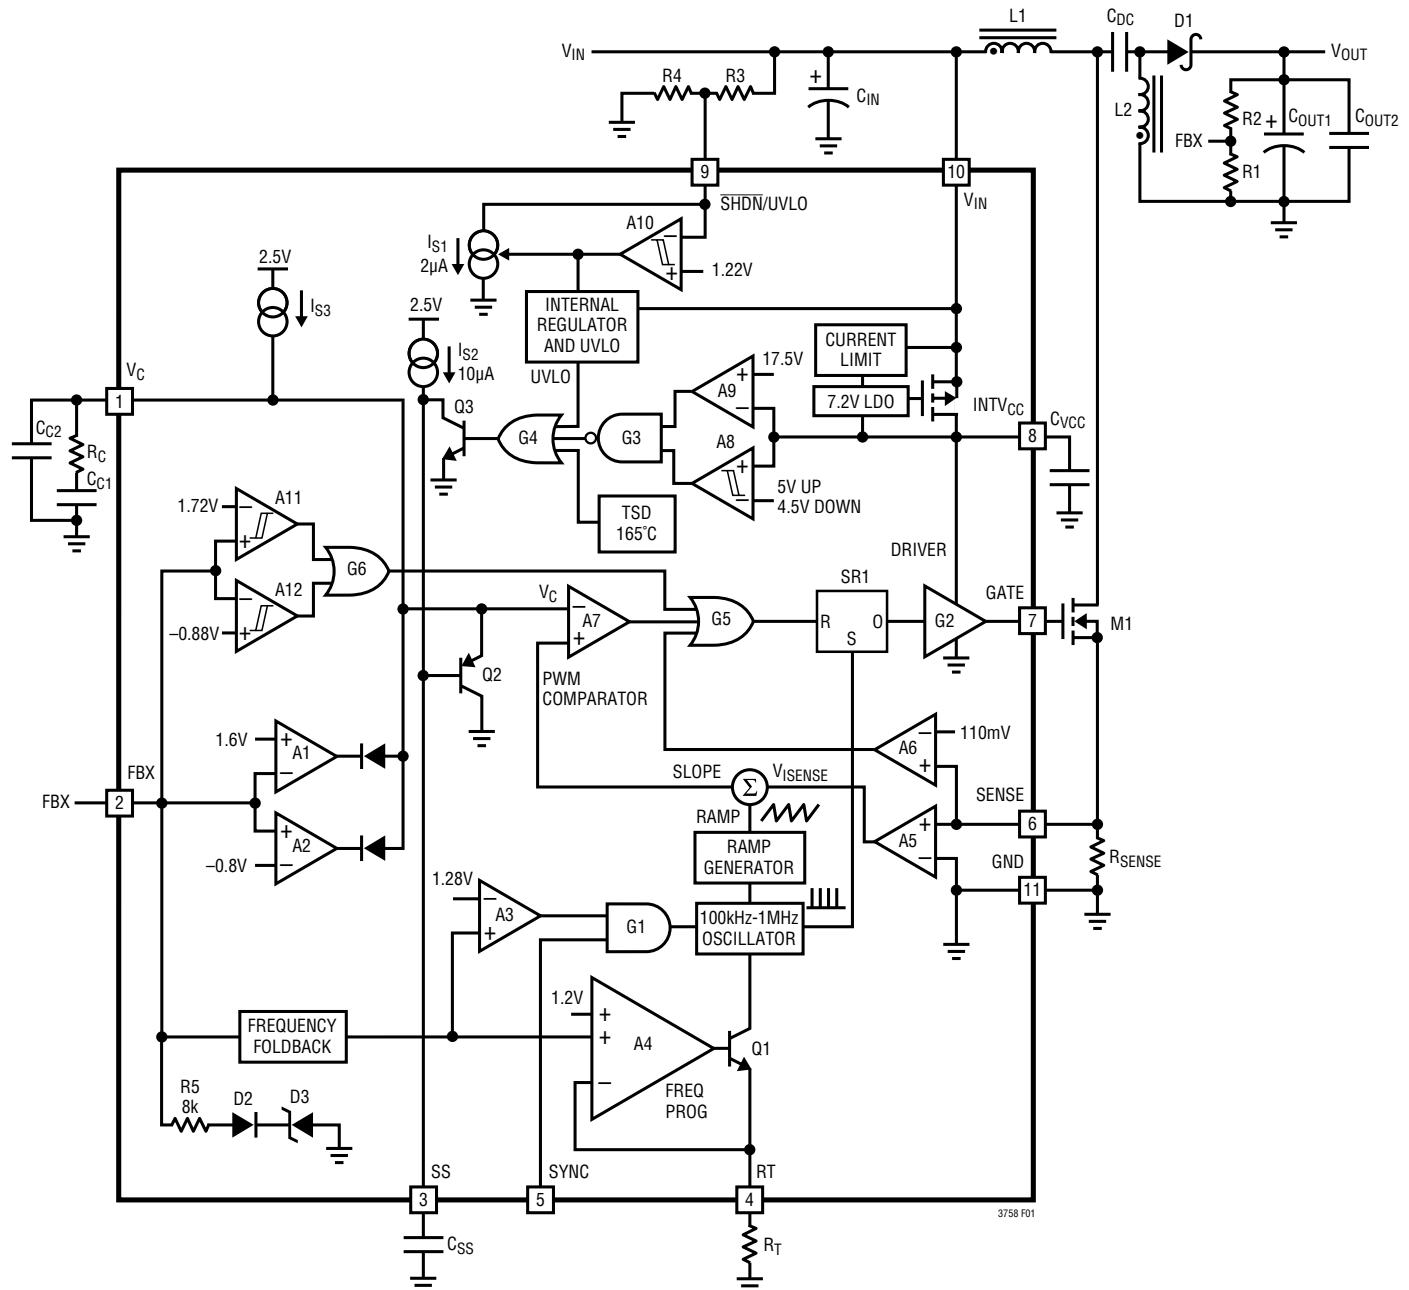

Figure 1. LT3758 Block Diagram Working as a SEPIC Converter
The LT3758 uses a fixed frequency, current mode control scheme to provide excellent line and load regulation. Operation can be best understood by referring to the Block Diagram in Figure 1.
The LT3758 is capable of generating either positive or negative output voltage with a single FBX pin. It can be configured as a boost, flyback or SEPIC converter to generate positive output voltage, or as an inverting converter to generate negative output voltage. When configured as a SEPIC converter, as shown in Figure 1, the FBX pin is pulled up to the internal bias voltage of 1.6V by a voltage divider (R1 and R2) connected from V_{OUT} to GND. Comparator A2 becomes inactive and comparator A1 performs the inverting amplification from FBX to V_C . When the LT3758 is in an inverting configuration, the FBX pin is pulled down to -0.8V by a voltage divider connected from V_{OUT} to GND. Comparator A1 becomes inactive and comparator A2 performs the noninverting amplification from FBX to V_C .
The purpose of this current is to allow the user to program the rising hysteresis. The Block Diagram of the comparator and the external resistors is shown in Figure 1. The typical falling threshold voltage and rising threshold voltage can be calculated by the following equations:
An internal, low dropout (LDO) voltage regulator produces the 7.2V INTV_{CC} supply which powers the gate driver, as shown in Figure 1. The LT3758 contains an undervoltage lockout comparator A8 and an overvoltage lockout comparator A9 for the INTV_{CC} supply. The INTV_{CC} undervoltage (UV) threshold is 4.5V (typical), with 0.5V hysteresis, to ensure that the MOSFETs have sufficient gate drive voltage before turning on. The logic circuitry within the LT3758 is also powered from the internal INTV_{CC} supply.
The choice of operating frequency may be determined by on-chip power dissipation, otherwise it is a trade-off between efficiency and component size. Low frequency operation improves efficiency by reducing gate drive current and MOSFET and diode switching losses. However, lower frequency operation requires a physically larger inductor. Switching frequency also has implications for loop compensation. The LT3758 uses a constant-frequency architecture that can be programmed over a 100kHz to 1000kHz range with a single external resistor from the RT pin to ground, as shown in Figure 1. The RT pin must have an external resistor to GND for proper operation of the LT3758. A table for selecting the value of R_T for a given operating frequency is shown in Table 1.
The output voltage V_{OUT} is set by a resistor divider, as shown in Figure 1. The positive and negative V_{OUT} are set by the following equations:
In the applications where V_{OUT} is pulled up by an external positive power supply, the FBX pin is also pulled up through the R2 and R1 network. Make sure the FBX does not exceed its absolute maximum rating (6V). The R5, D2, and D3 in Figure 1 provide a resistive clamp in the positive direction. To ensure FBX is lower than 6V, choose sufficiently large R1 and R2 to meet the following condition:
The LT3758 addresses this mechanism with the SS pin. As shown in Figure 1, the SS pin reduces the power MOSFET current by pulling down the V_C pin through Q2. In this way the SS allows the output capacitor to charge gradually toward its final value while limiting the start-up peak currents. The typical start-up waveforms are shown in the Typical Performance Characteristics section. The inductor current I_L slewing rate is limited by the soft-start function.
load transient response, when compared to the LT3758. New internal circuits ensure that the transient from not switching to switching at high current can be made in a few cycles. The optimum values depend on the converter topology, the component values and the operating conditions (including the input voltage, load current, etc.). To compensate the feedback loop of the LT3758/LT3758A, a series resistor-capacitor network is usually connected from the V_C pin to GND. Figure 1 shows the typical V_C compensation network. For most applications, the capacitor should be in the range of 470pF to 22nF , and the resistor should be in the range of 5k to 50k . A small capacitor is often connected in parallel with the RC compensation network to attenuate the V_C voltage ripple induced from the output voltage ripple through the internal error amplifier. The parallel capacitor usually ranges in value from 10pF to 100pF . A practical approach to design the compensation network is to start with one of the circuits in this data sheet that is similar to your application, and tune the compensation network to optimize the performance. Stability should then be checked across all operating conditions, including load current, input voltage and temperature.